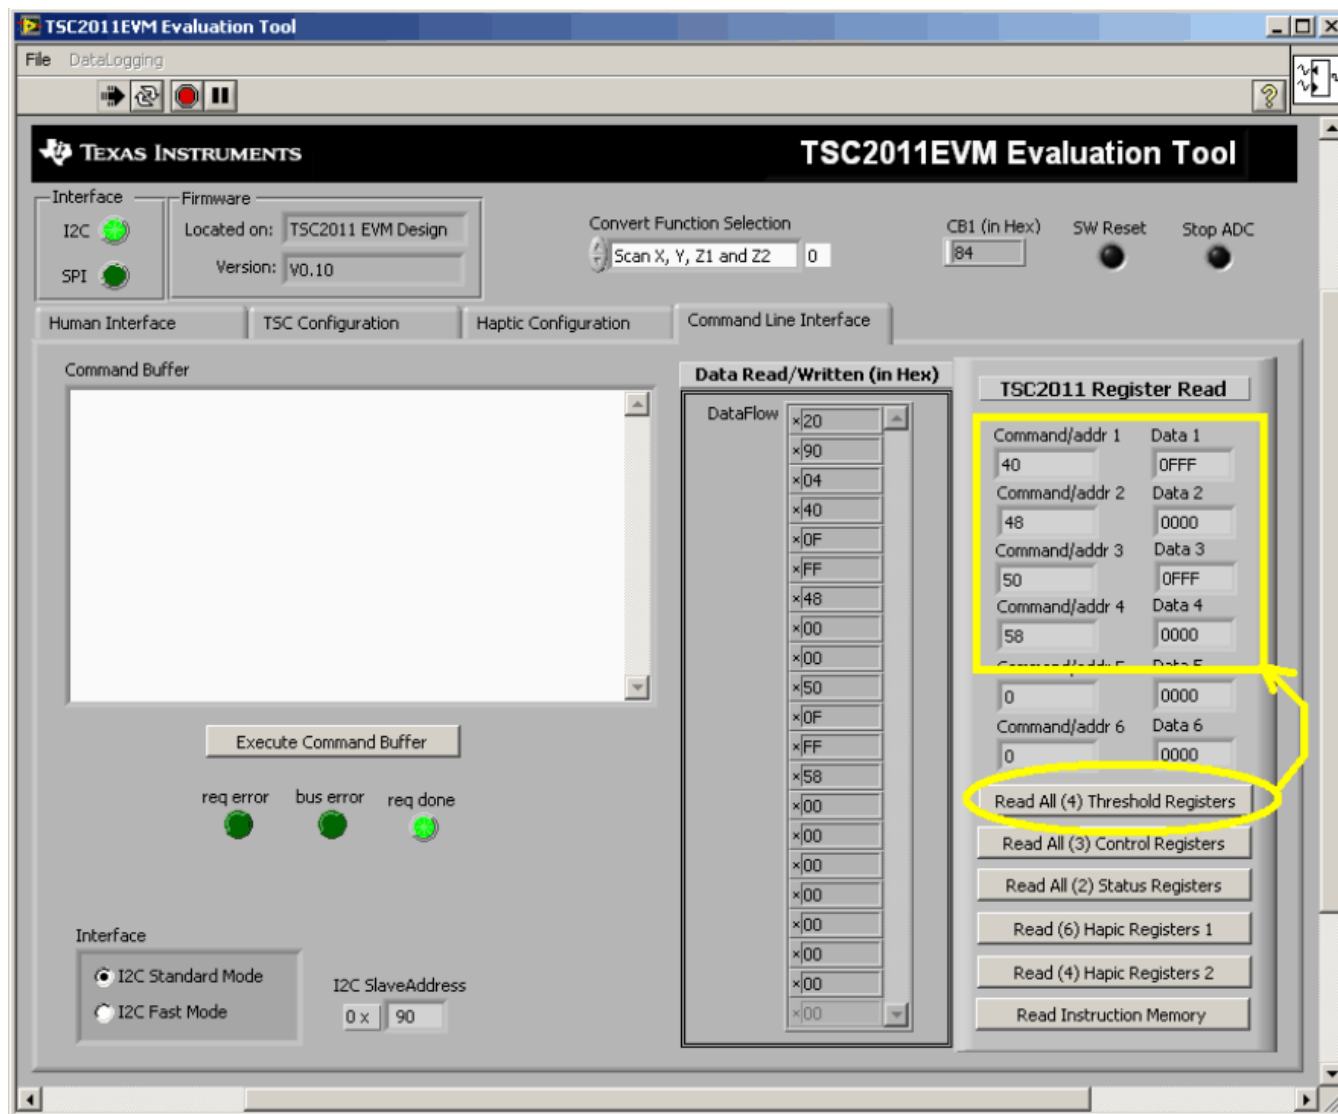

Figure 13. TSC2011EVM-PDK Software GUI: Read All Threshold Registers Option
As Figure 13 shows, six read buttons reveal the contents of the Threshold, TSC Control, TSC Status, Haptic Control, and Haptic Instruction Memory Registers of the TSC2011; the contents are also displayed in the *Data Read/Written* section of the screen. The data flow is shown at the *Data Read/Written* section, and is interpreted and listed correspondingly on the *TSC2011 Registers Read* section. For example, Figure 13 shows a read result of the four TSC2011 threshold registers after clicking on the **Read All (4) Threshold Registers** button.